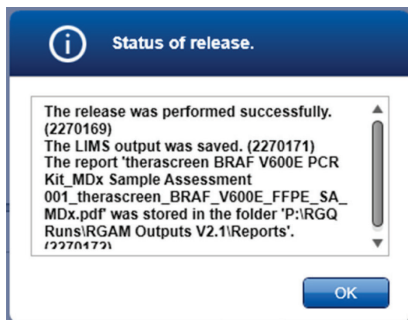

Figure 15. "Status of release" dialog.
- Click "OK" when the Status of release dialog box appears. (Figure 15).